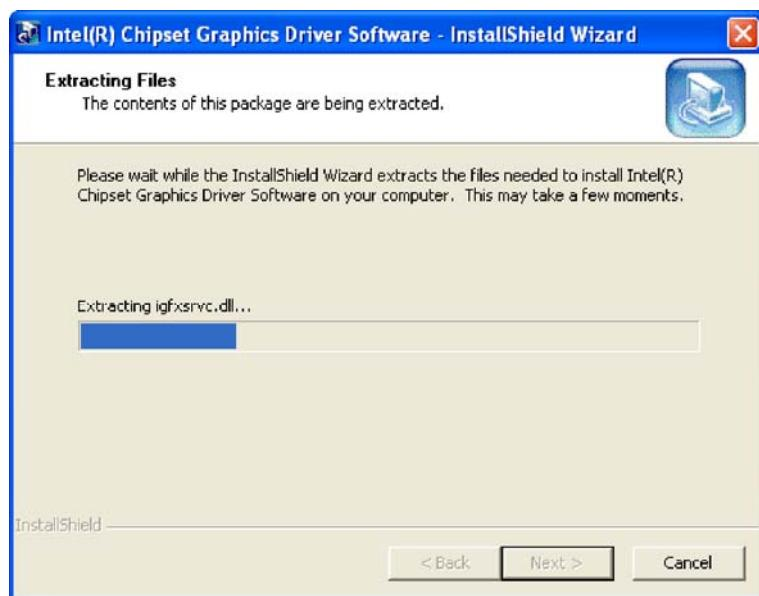

Figure 7-10: VGA Driver Setup Files Extracted
**Step 5:** The installation files are extracted. See **Figure 7-10**.